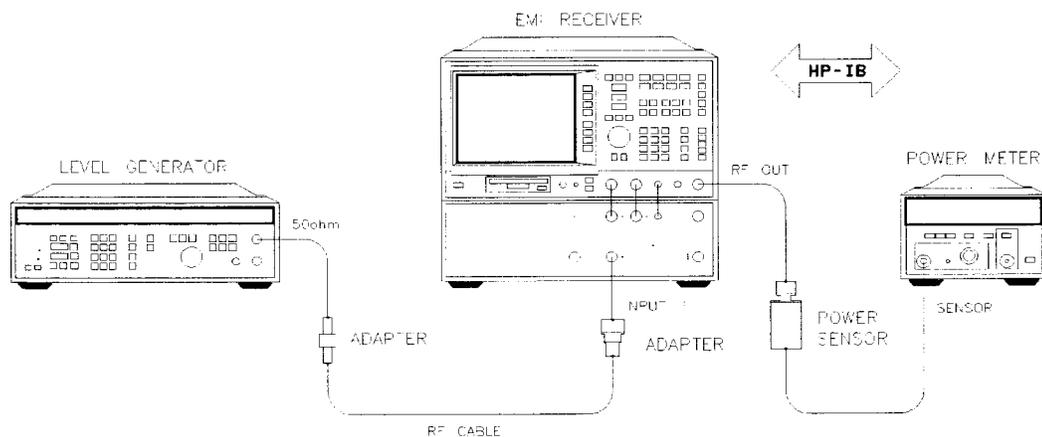

Figure 2-14 RF Overload Calibration, Input 1 Setup
- The test equipment must be connected as shown in Figure 2-14.
4. When the following is displayed, connect the equipment as described. See Figure 2-14 for more information.